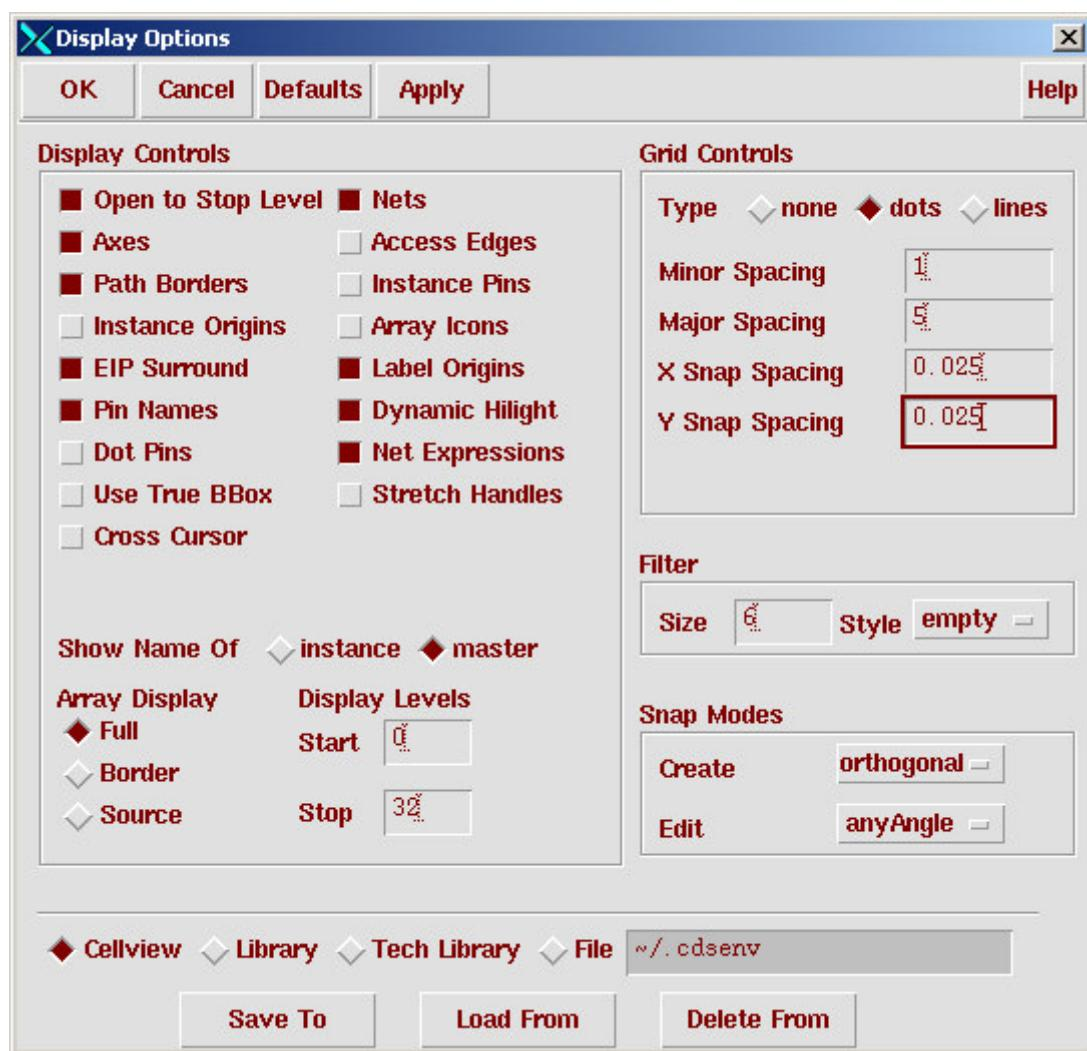

Figure 20. Display Options Window
6. Click on **Options**, then **Display**. You should get a **Display Options** window as shown in Figure 20.
7. In the **Display Options** window, click on the **Axes**, **Nets**, and **Pin Names** buttons in the **Display Controls** box so they are darkened. Then, in the **Grid Controls** box, enter 0.025 for both **X** and **Y Snap Spacing**. Change only the **Edit Snap Mode** to **anyAngle** as shown in Figure 20.